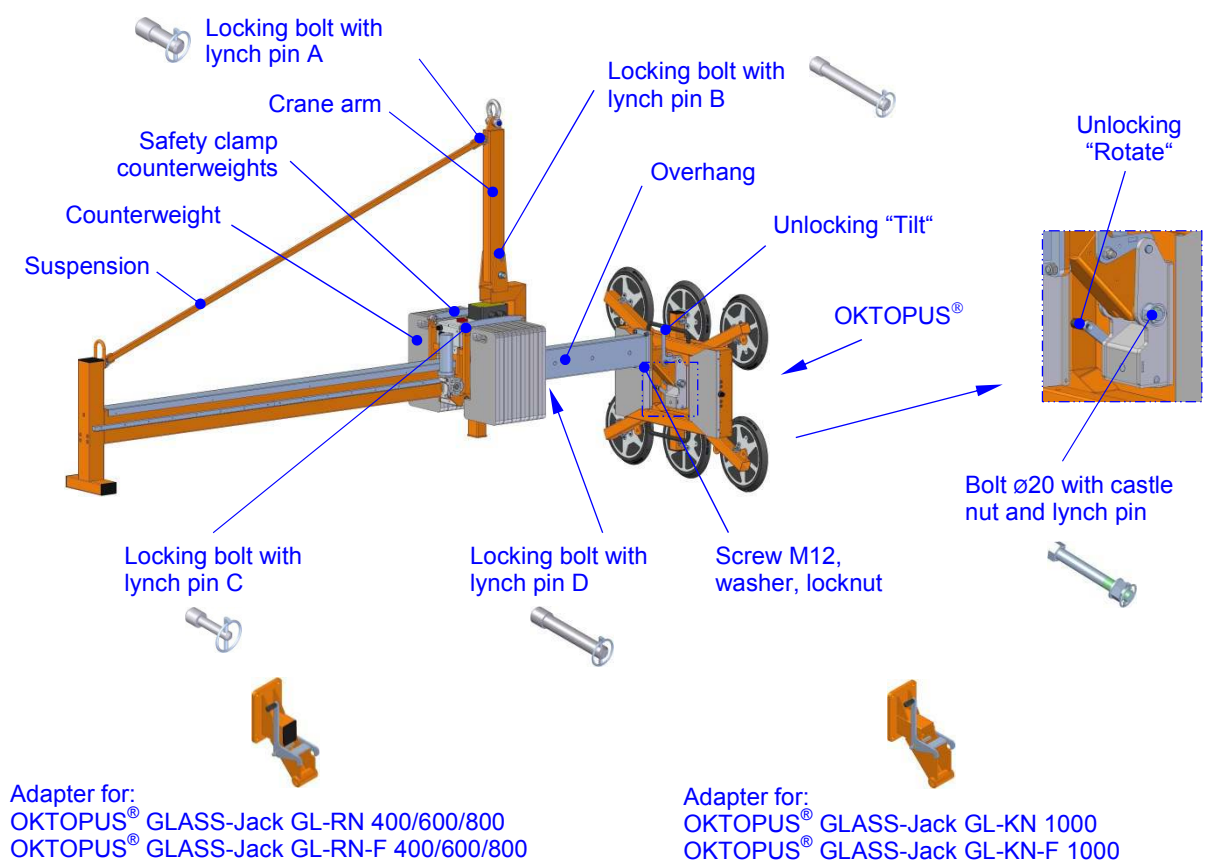

Fig. 8: Counterweight balancer mounted to the OKTOPUS® GLASS-Jack GL-KN-F 1000
- Remove the locking bolt with lynch pin B (see fig 8).
- ⇒ Mount one of two adapters OKTOPUS® of the counterweight balancer (see fig. 8) to the swivel joint of the OKTOPUS®. As a fastener use the bolt Ø20 that was removed beforehand. Secure the bolt with the castle nut and the lynch pin.
- ⇒ Place the counterweight balancer on a firm, even surface. If not done yet, tilt the crane arm by 90° upwards and fix it with the locking bolt and lynch pin B. Mount the suspension using the two locking bolts with lynch pin A (see fig. 8).
When attaching the counterweights make sure that they are always completely engaged and secured with the safety clamps (see fig. 8) in order to